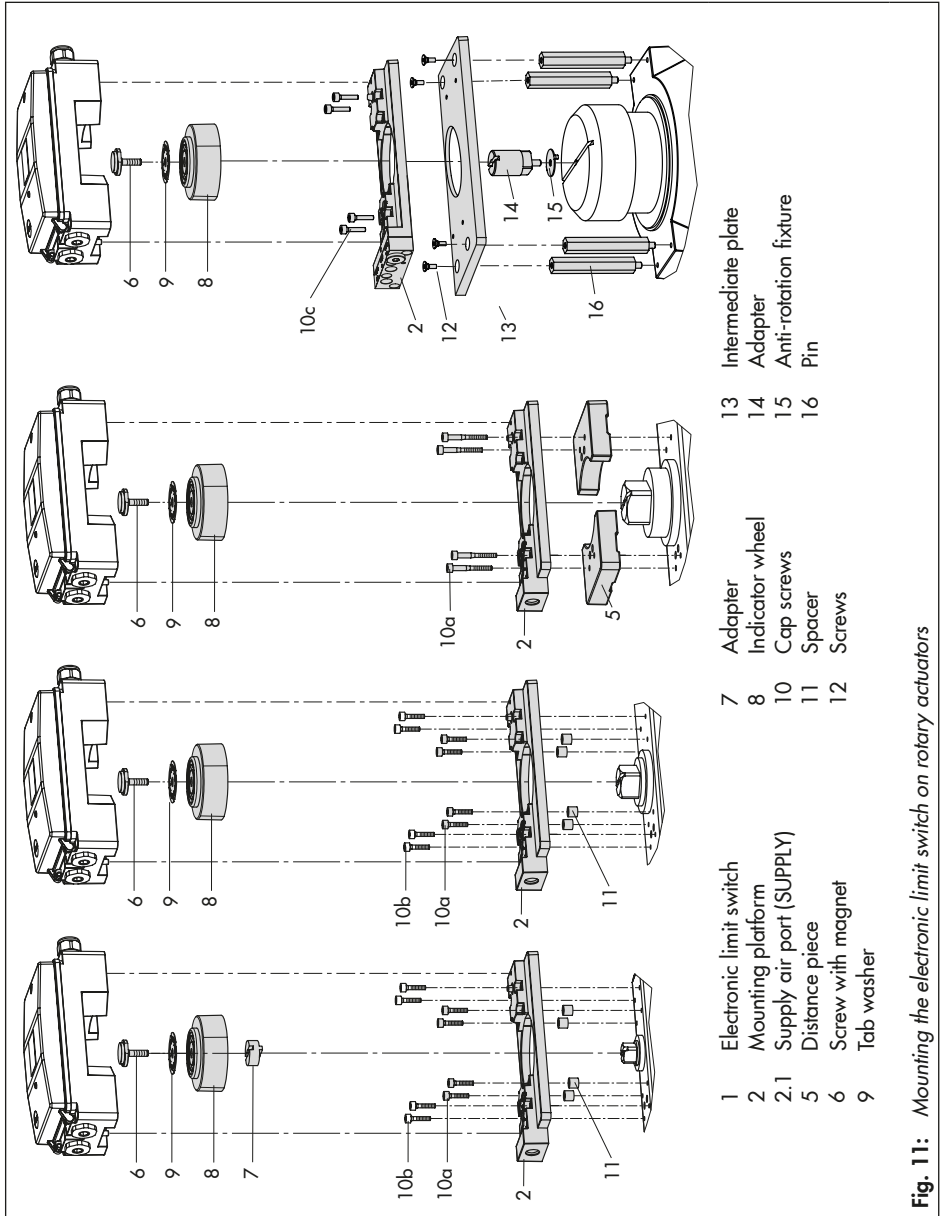

Fig. 11: Mounting the electronic limit switch on rotary actuators
The attachment depends on the shaft height of the rotary actuator upon which the electronic limit switch is to be mounted (Fig. 11).
5. Fasten the screw with magnet (6) onto the actuator shaft.
6. Bend the two flaps on the plate (9) towards the width flats of the screw with magnet (6).
7. Place the electronic limit switch on the mounting platform (2) as shown in Fig. 11 and fasten it using the two screws mounted on the device.